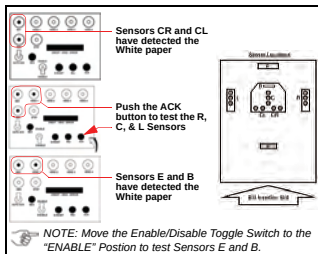

Figure A-8 EBA Test #3 Lit LED Indications
5. Slowly slide the White Test Paper into the Acceptor while following the steps listed in Figure A-8.